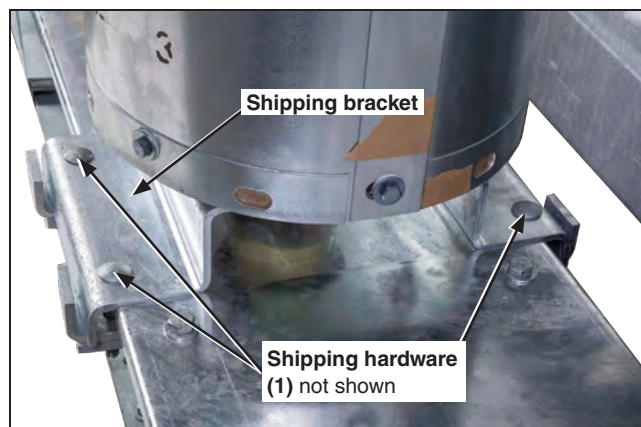

Figure 12. Shipping clamps for the Series 2000 Circuit-Switcher interrupters.
- STEP 2.** Remove the four $\frac{1}{2}$ -13-inch stainless steel hex nuts and Belleville washers used to attach the interrupter shipping bracket to the threaded studs on the interrupter. See Figure 12. Discard the shipping bracket but retain the Belleville washers and nuts for re-use in Step 4(f) on page 19.